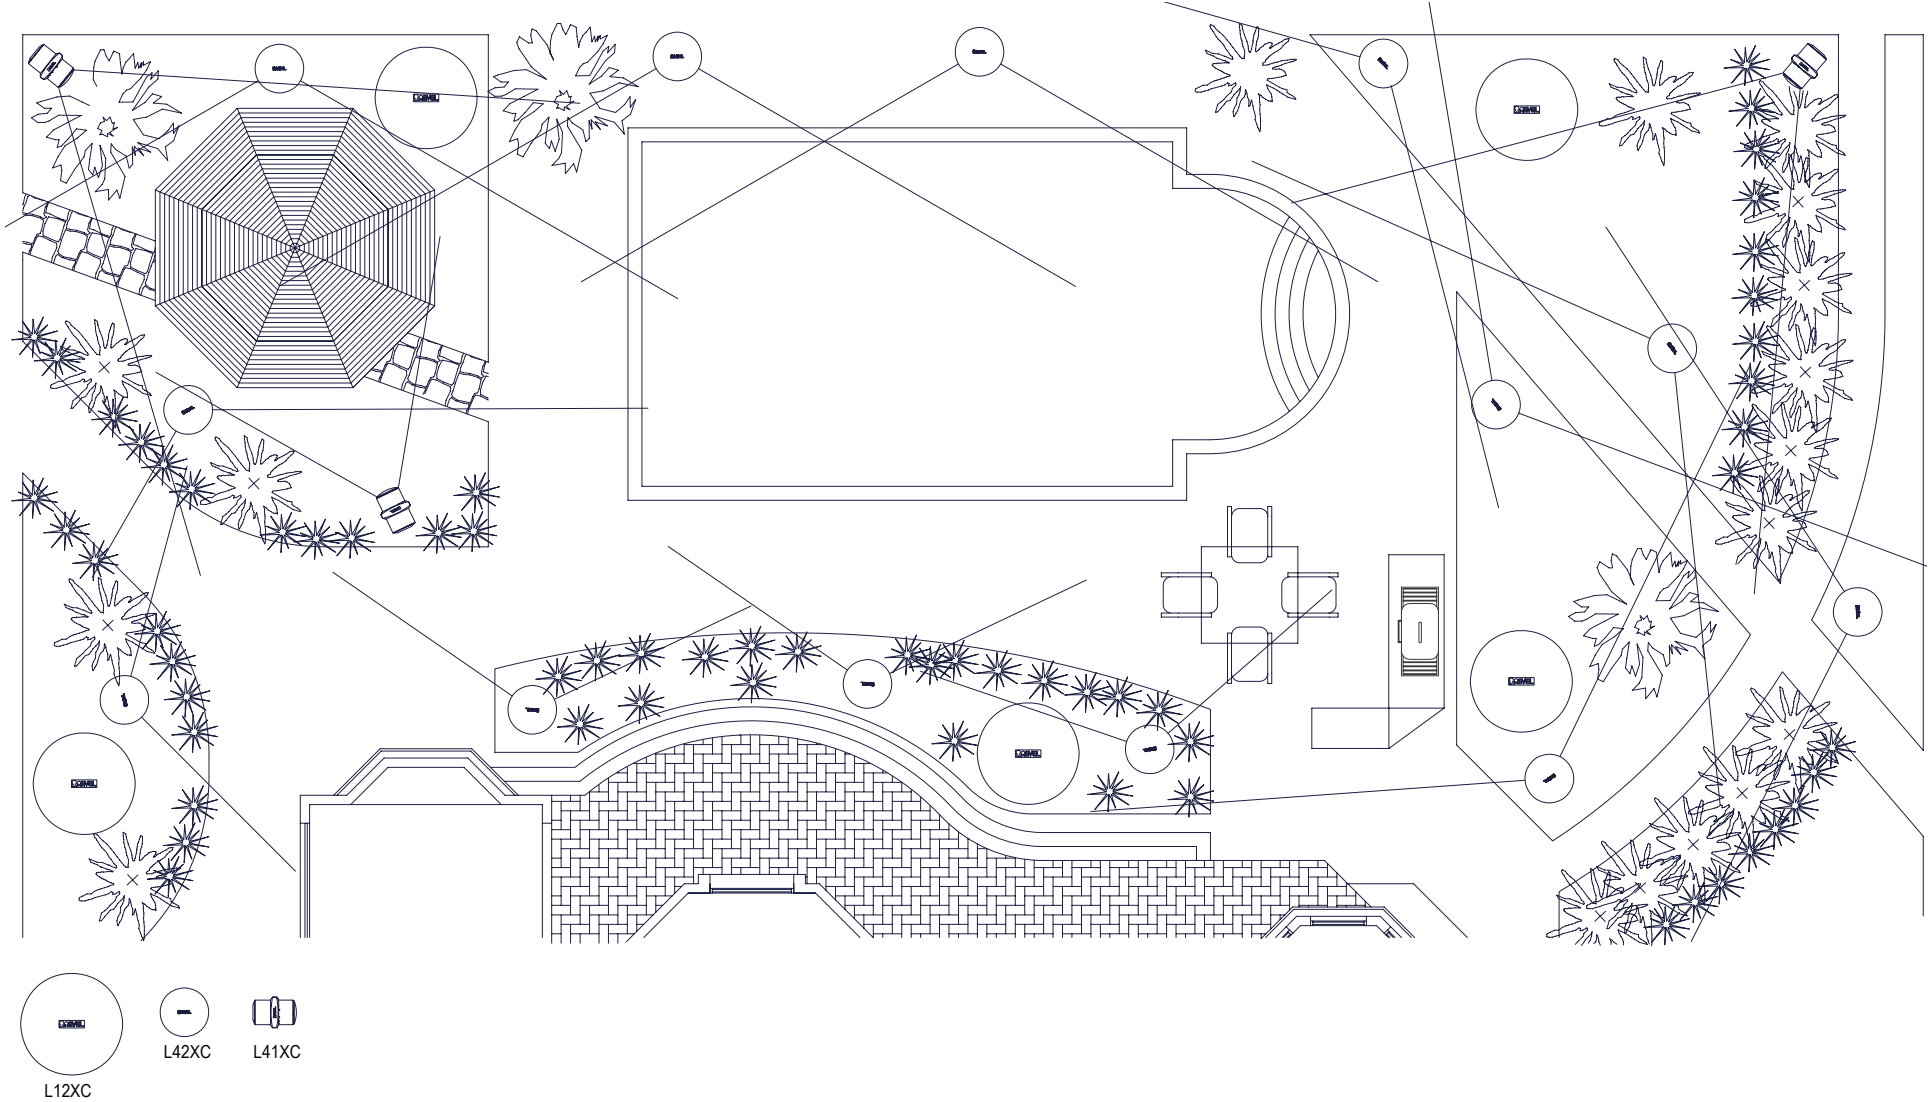

Figure 1
2. The dispersion angle of the satellite speakers will influence how many speakers you need to adequately cover an area. The L41XC has a dispersion of 70-degrees, while the L42XC’s dispersion is 120-degrees. The closer the speaker is to the listening area, the less area it will cover. It is a good practice to plan out the system with coverage angles in mind, as we have done in Figure 1.